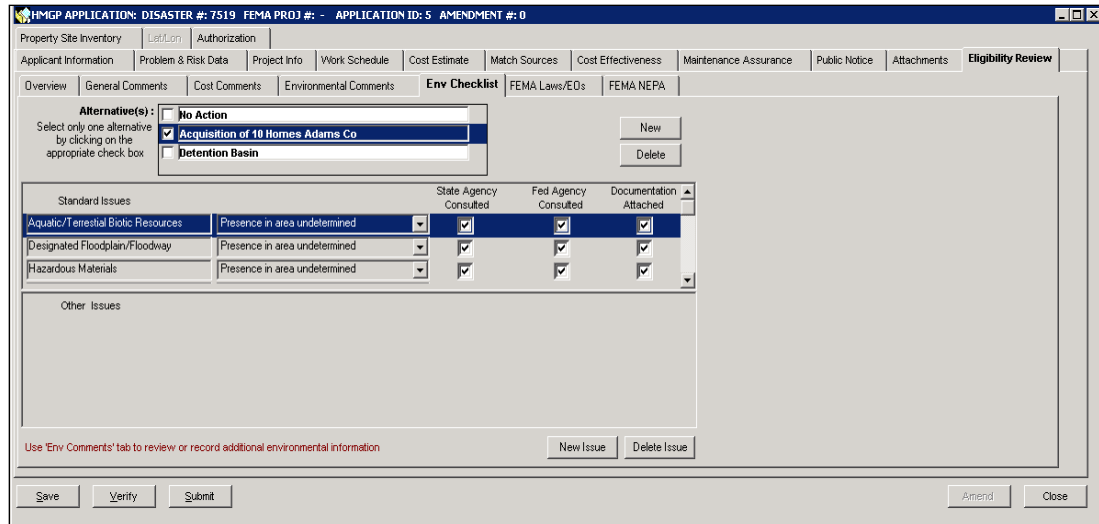

Figure 6-81: Env Checklist Sub-tab - Alternatives Section
9. After entering three alternative solutions and completing the checklists for each one, the Alternative Names are displayed in the top part of the **Env Checklist** sub-tab (Figure 6-81).